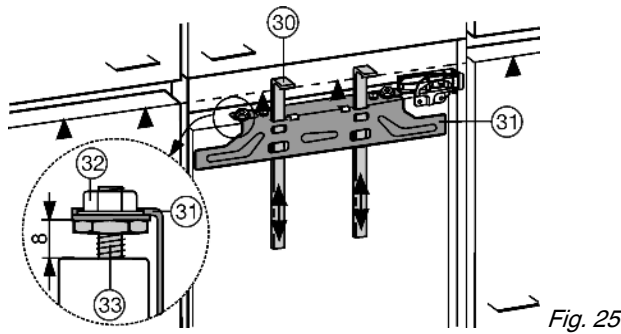
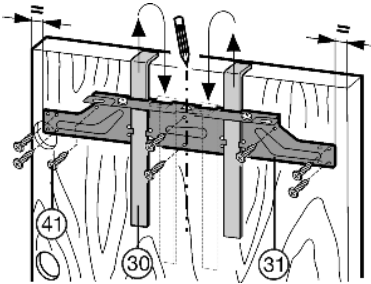

Fig. 25
Fig. 26
The fitting aids Fig. 25 (30) are required for both doors. Therefore fit the doors of the units one after the other.
- ▶ Raise fitting aids Fig. 25 (30) to unit door height. Lower edge  $\Delta$  of fitting aid = upper edge of unit door to be fitted.
- ▶ Unscrew crosspiece Fig. 26 (31) by undoing the locknuts Fig. 25 (32).
- ▶ Attach the crosspiece Fig. 26 (31) to the inside of the unit door using the fitting aids Fig. 26 (30).
- ▶ Centre the crosspiece Fig. 26 (31): mark a short centre line on the unit door and put the tip of the arrow on the crosspiece above it.
- ▶ fix the crosspiece Fig. 26 (31) with at least 6 screws Fig. 26 (41).
- ▶ fix the crosspiece Fig. 26 (31) with 4 screws Fig. 26 (41) at the edge.
- ▶ Lift out the fitting aids Fig. 26 (30), turn round and insert into the adjacent openings.